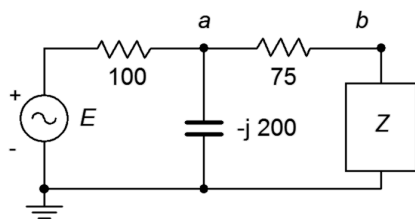

Figure 5.47
83. In the circuit of Figure 5.47, assume the source E is 120 volts RMS at 60 Hz. Determine the value for the load, Z , that will produce maximum load power. Express Z in terms of a resistor and either an inductor or capacitor. Further, specify both the series and parallel equivalents for the load.